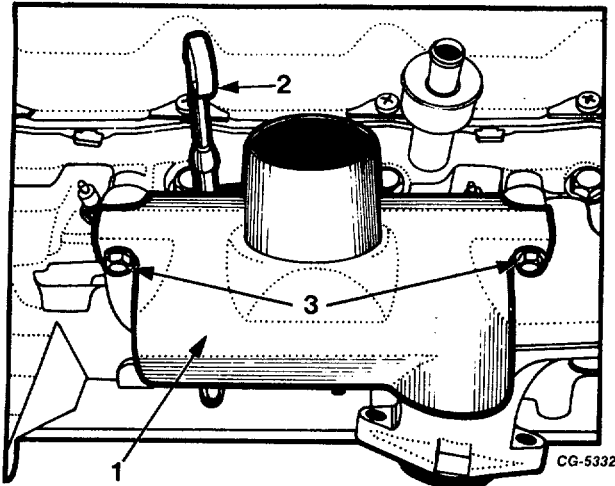

Fig. 39 Head Shroud Removal
39. Remove manifold heat shroud from right exhaust manifold, Figure 39.
40. Remove oil level gauge from tube, Figure 39.